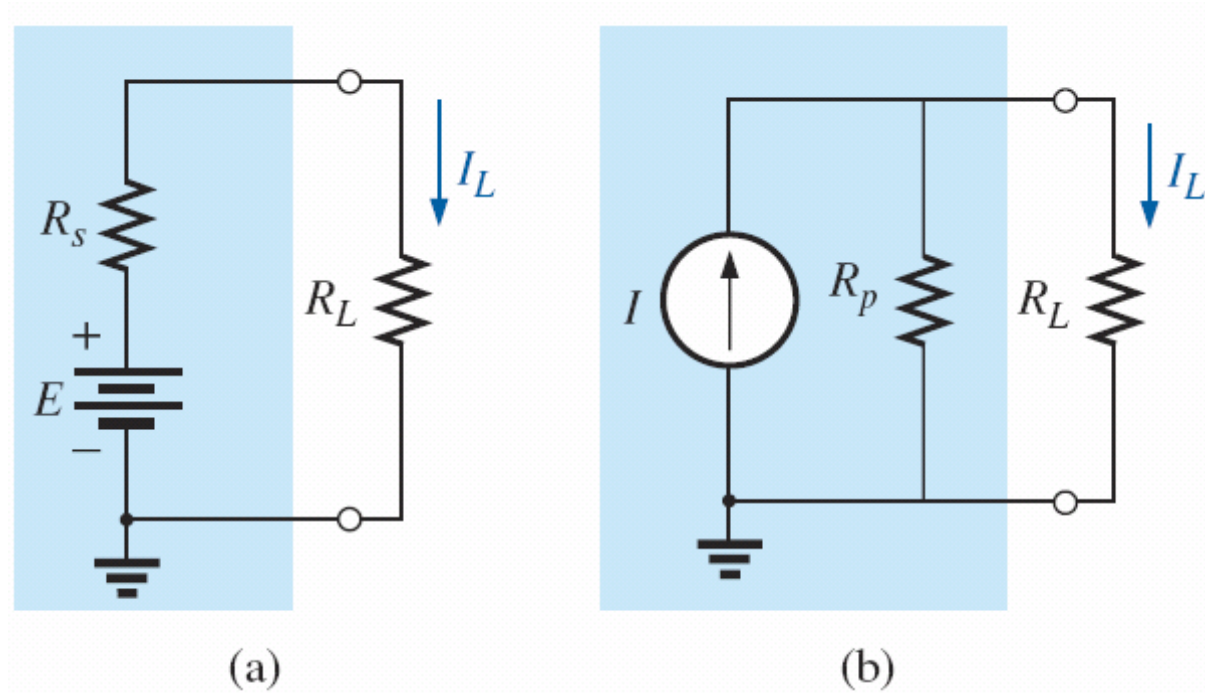

FIG. 8.5 Practical sources: (a) voltage; (b) current.
- In reality, all sources—whether they are voltage sources or current sources—have some internal resistance in the relative positions shown in Fig. 8.5.